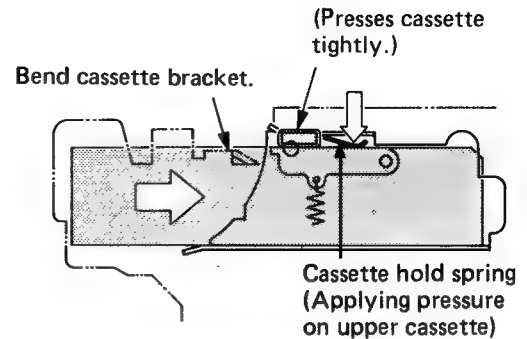
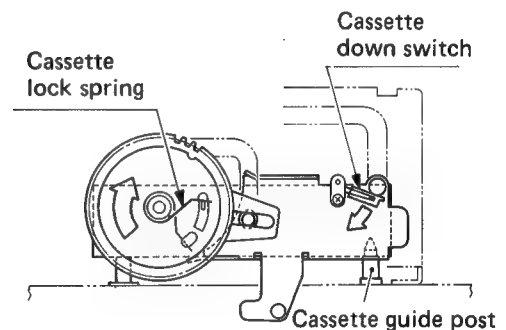

Fig. 3-1-4
Fig. 3-1-6
(3) The cassette loaded in the cassette holder is, first, held in a place by two cassette hold springs (strip) provided on left and right sides of the holder reinforcement plates, thus preventing the cassette from its positional deviation at the starting period. Motion of the cassette holder unlatches both left and right cassette levers from their hooks provided on the guide bracket and allows the cassette to rotate in the direction being pressed, thus holding the cassette more tightly and preventing positional deviation of the cassette due to the cassette lid opener. (Fig. 3-1-4)
(4) In the last stage of the cassette holder's horizontal motion, the cassette lid is engaged with the cassette opener and opened widely as the cassette holder moves down.
(5) When the cassette is mounted on the cassette guide posts, the cassette down switch turns on. The slot motor continues to rotate for approx. 160 msec after the above operation and the cassette is pressed by the left and right cassette lock springs and stopped. (Fig. 3-1-6)